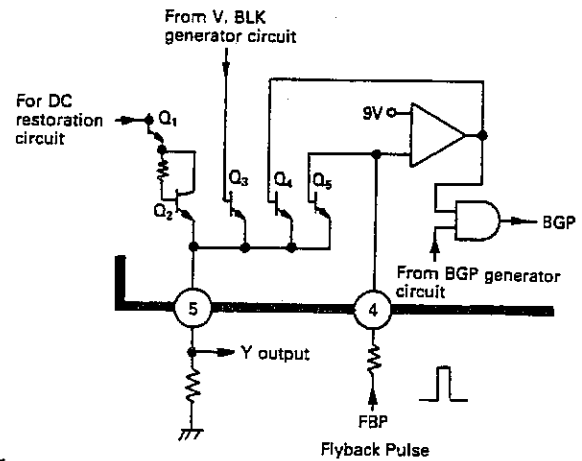

Figure 34.
The signal going out of the DC restoration circuit passes through the 2-stage transistor (Q_1 and Q_2 shown in Fig. 34) is applied to pin ⑤. At the base of Q_1 , DC voltage of the signal has the temperature characteristic of $0 V_{BE}$ and when it reaches pin ⑤, it will have the temperature characteristic of $2 V_{BE}$.